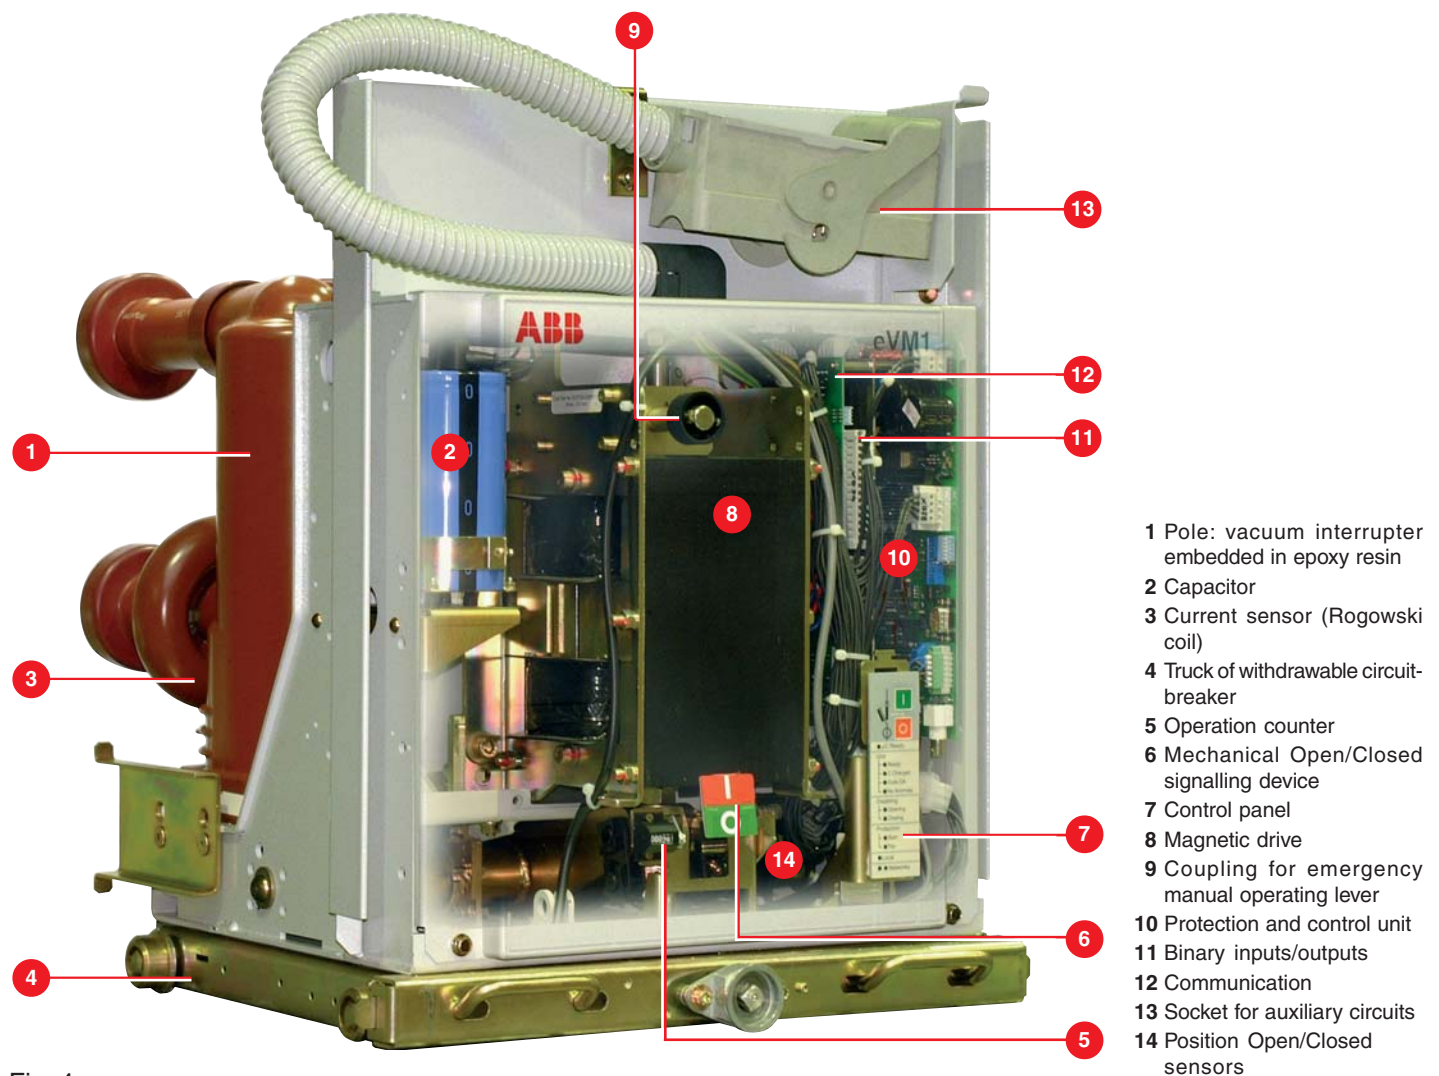

Fig. 4
The drive is of the magnetic type and basically consists of the magnetic actuator (8) (fig. 4), the control module (10), the current sensors (3), the capacitor/s (2) and the kinematics which transmit the movement to the circuit-breaker poles.
The opening and closing operations can either be remotely controlled by means of the special inputs provided in the control module, or locally by pressing the pushbuttons on the control panel (7) (fig. 4).